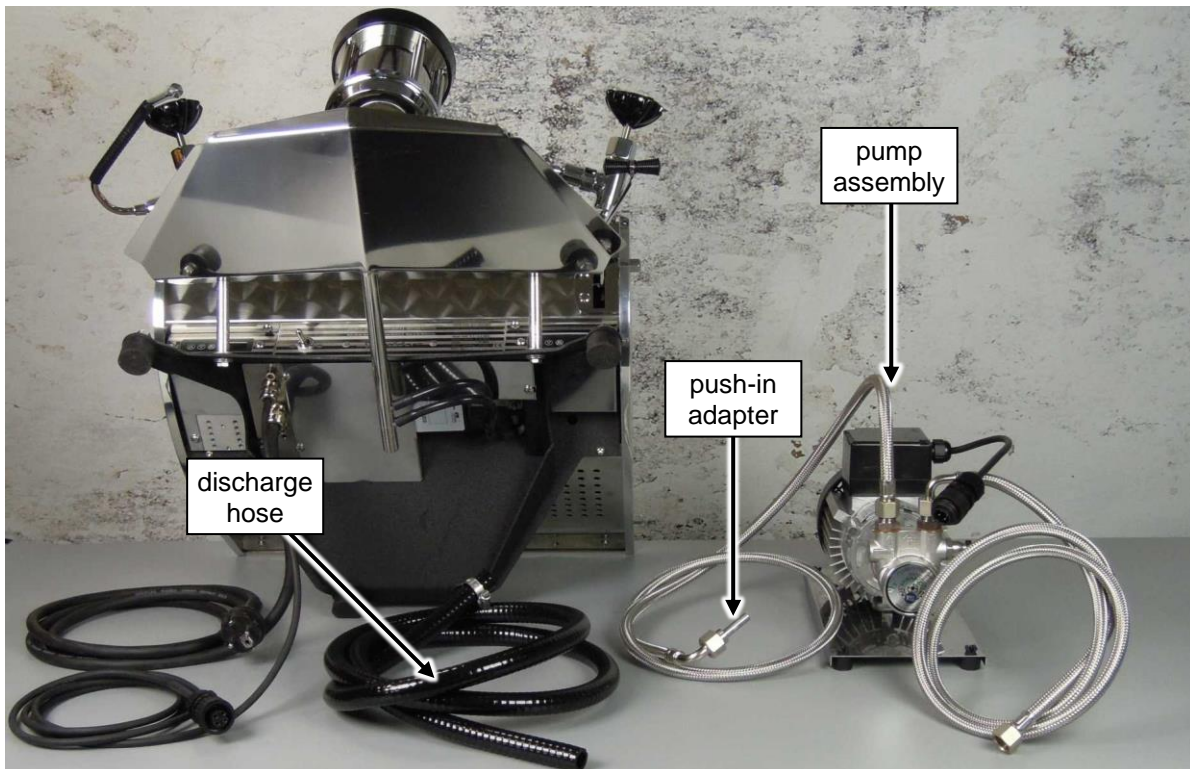
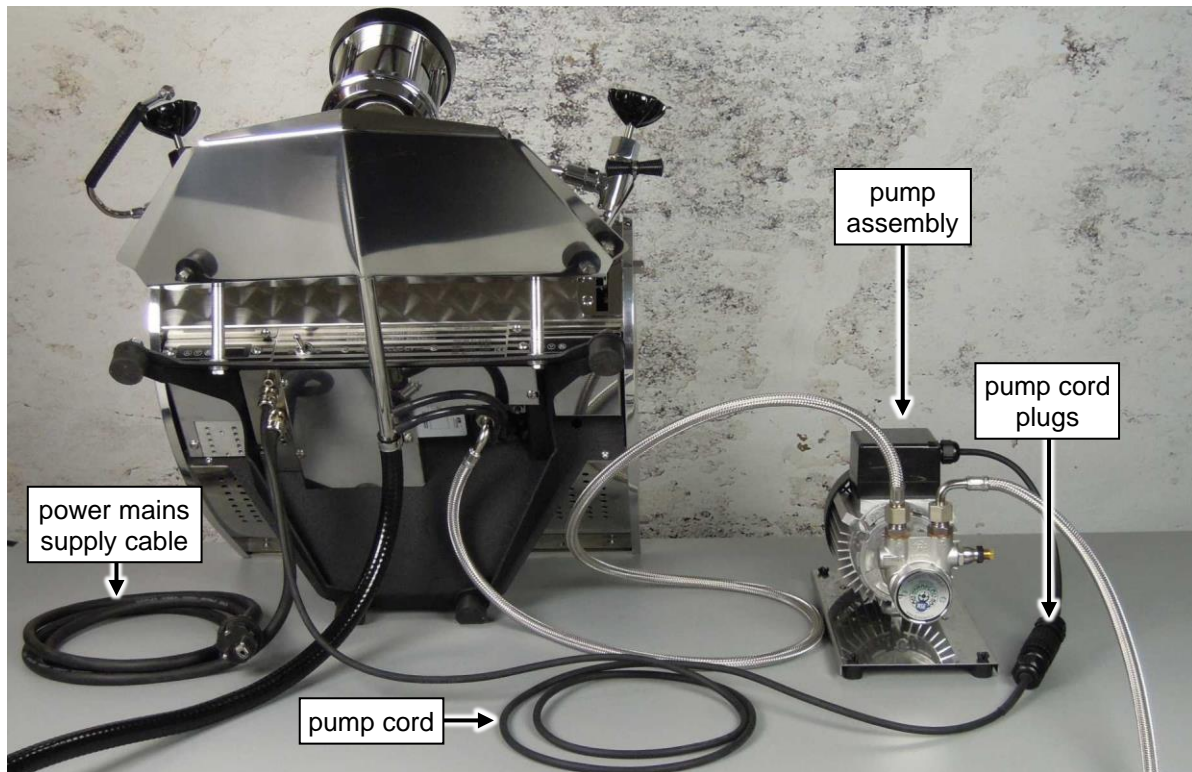
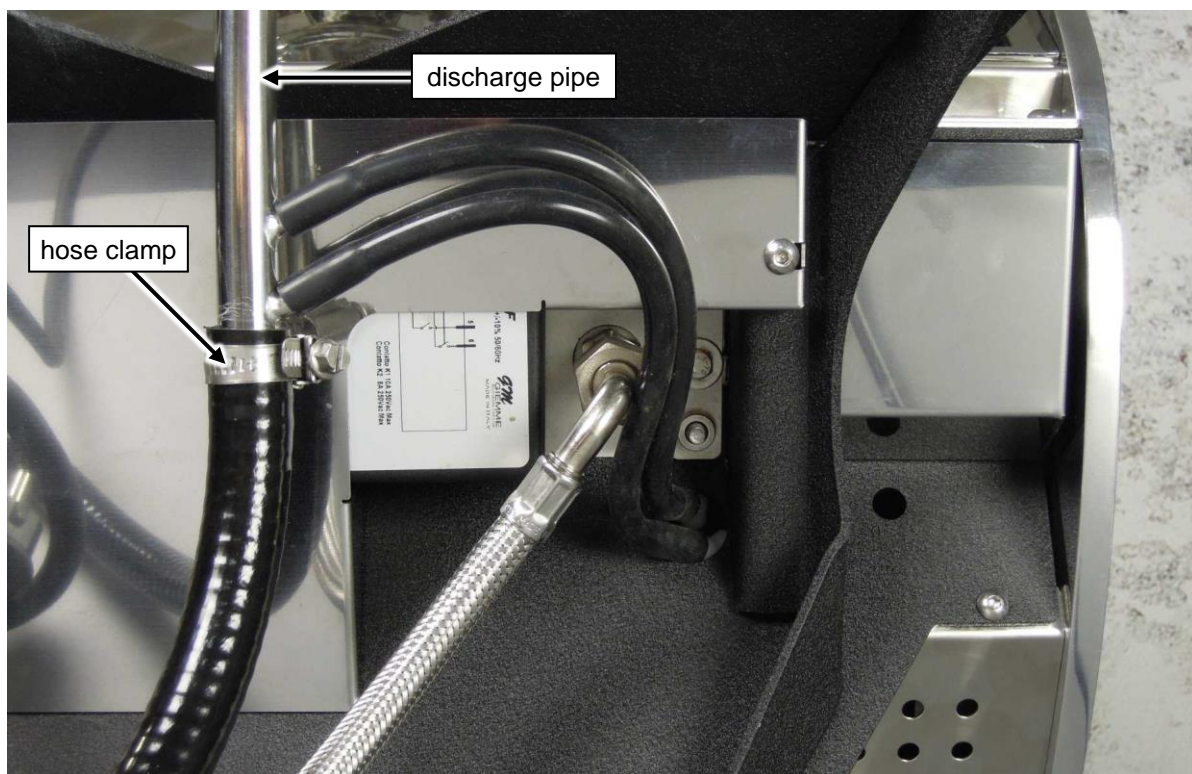

Figure 5. Speedster tilted on back for access to water supply and discharge.
Figure 6. Water supply, discharge hose and pump motor are connected.
Figure 7. discharge hose is clamped to discharge pipe and water supply is pushed into the machine.
7. The machine may be tilted in such a way that it rests on the two hind-legs and the back of the machine, or use (wooden) blocks under the feet; see Figure 5. Close the tap and push the push-in adapter to the water-inlet at the bottom of the Speedster, see Figure 7. Pull the fitting to assure that it is correctly mounted. (It should not be possible to pull the fitting out without simultaneously pushing the lock inwards).
1. Position the stainless steel hose clamp on one end of the discharge hose. Slide the end of the hose over the discharge-pipe of the drip tray (see Figure 7) and tighten the hose clamp.
2. The thinner electrical cable attached to the Speedster is the pump cord (see Figure 6) and has a special type of plug. Connect the pump cord to the pump motor and secure the plug, see Figure 7.